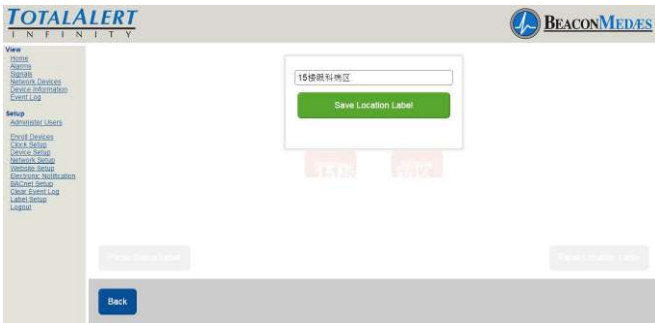

Figure 287
4. To setup Panel Location Label, select "Panel Location Label". Enter the non-latin language for the location of the panel. Click save button to enter. (See Figure 287) Choose "Back" button to return to the main setup screen.